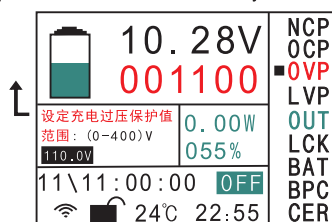

Figure 4-3
3). "**OVP**" Charge overvoltage protection value, if the value is greater than 0 will start the protection, if equal to 0 will not start the protection function. When setting the parameters, press the $\uparrow\downarrow$ key to move the cursor to **OVP**, and then click the **OK** key to enter into the parameter setting interface of Figure 4-3, setting the parameters in the same way as NCP.